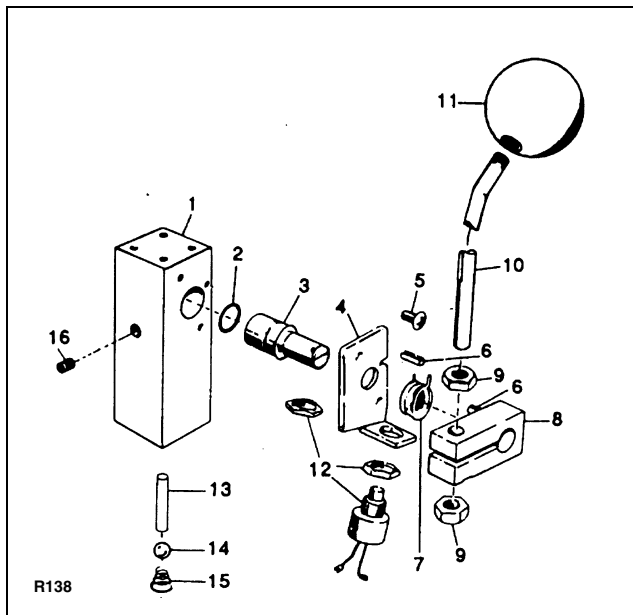

Figure 6-4 Lift Control Valve Assembly
CAUTION: In the following procedure, prevent the lift control valve clamp (8, Figure 6-4) from slipping off of the release cam (3) or the handle return spring (7) will slip by the roll pins (6).
2. Loosen the upper nut (9) on the lift control valve clamp (8).
4. Remove the knob (11, Figure 6-4) from the lift control handle.
7. Separate the lift control valve from the instrument panel. Loosen the lower nut (9) that secures the lift control handle (10) to the valve clamp (8) and slide the handle and clamp from the release cam (3).
8. Remove the handle return spring (7).
9. If necessary, remove the pump motor switch (12) by removing the top nut.
10. Remove the switch bracket (4).
12. Pull the release cam (3) and O-ring (2) from the valve body.